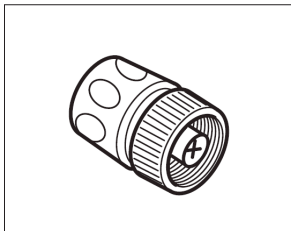

Fig.5
5. Garden hose connection (Fig.5/6/7)
- **Please Note:** The required garden hose adapter is not included with the appliance - please ensure that you have a standard garden hose adapter (Fig.5).